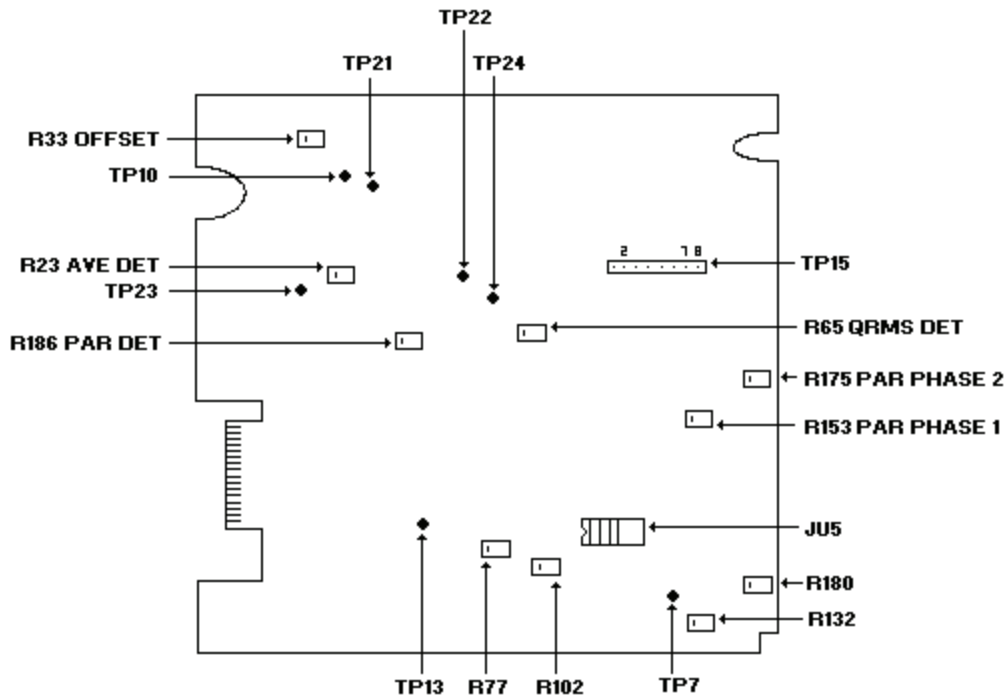

Figure 1. Receiver board A3 (A13) - adjustment locations.
- (1) Press calibrator **RESET** key and disconnect from TI.
- (2) Connect left **TRMT/RCV 310** to right **RCV/TRMT 310** using a T-type connector.
- (3) Connect multimeter **Input HI** and **LO** to T-type connector.
- (4) Press **IMPULSE NOISE DISPLAY F2 1004** key. Right display will indicate 1004 Hz.
- (5) Adjust **OUTPUT LEVEL** control until multimeter indicates about 1.0 V ac. Record exact value.
- (6) Connect multimeter **Input HI** to TP13 (fig. 1) and **LO** to ground. Adjust R77 (fig. 1) until multimeter indicates value recorded in (5) above (R).
- (7) Disconnect left **TRMT/RCV 310** from right **RCV/TRMT 310**.
- (8) Press **MEASUREMENT MEAS** key to select **NOISE** and **DISPLAY** key to select **TRMT**. Connect jumpers from TP10 to TP21 and from TP22 to TP23 (fig. 1).
- (9) Connect multimeter **Input HI** to TP24 (fig. 1). If multimeter does not indicate 0 V dc ± 0.3 mV dc, adjust R33 **OFFSET** (fig. 1) for 0 V dc. Disconnect jumpers and multimeter (R).
- (10) Set calibrator for a 0.77 V, 1.004 kHz output. Do not connect to TI at this time.
- (11) Press **DISPLAY** key to select **RCV** and **MEASUREMENT MEAS** key to select **LEVEL FREQUENCY**.
- (12) Press **NOR** and **SET UP RCV 600 Ω** pushbuttons.
- (13) Release **SET UP RCV BRG**, **RCV HOLD**, **TRMT DIAL**, and **TRMT HOLD** pushbuttons (out).
(14) Connect calibrator (preset in (10) above) **OUTPUT HI** and **LO** to TI right **RCV/TRMT 310**. Adjust R23 AVE DET (fig. 1) for > 0.0 dBm indication on TI left display, then reduce until indication just changes to -0.1 dBm (R).
(15) Set calibrator amplitude to 0.7795 V. TI left display will indicate +0.1 dBm, if not, repeat (14) above at 0.77 V.
(16) Press **MEASUREMENT MEAS** key to select **NOISE**.
(17) Press **FILTER FILTER** key to select **15 kHz FLAT**.
(18) Set calibrator amplitude to 0.727 V.
(19) Adjust R65 QRMS DET (fig. 1) until TI left display indicates 90 dBm then reduce level until indication just changes to a stable 89 dBm (R).
(20) Set calibrator amplitude to 0.826 V. TI left display will indicate 91 dBm, if not repeat (18) and (19) above.
- (2) Connect left **TRMT/RCV 310** to right **RCV/TRMT 310**.
- (3) Press **DISPLAY** key to select **TRMT** and **MEASUREMENT MEAS** key to select **LEVEL FREQUENCY**.
- (4) Press **←**, **STEP UP**, **STEP DOWN**, and **→** keys until TI right display indicates 995 Hz. Adjust **OUTPUT LEVEL** control until left display indicates 0.0 dBm.
- (5) Press **DISPLAY** key to select **RCV**.
- (6) Move shorting bars on JU5 (fig. 1) to right (shorting pins 5 to 12, 6 to 11, 7 to 10, and 8 to 9).
- (7) Connect oscilloscope **CHAN 1** to pin 1 of JU5 (fig. 1).
- (8) Adjust R102 (fig. 1) for minimum ac signal on oscilloscope (R).
- (9) Press ←, **STEP UP**, **STEP DOWN**, and → keys until TI right display indicates 1010 Hz.
- (10) Connect oscilloscope **CHAN 1** to pin 4 of JU5 (fig. 1).
- (11) Adjust R132 (fig. 1) for minimum ac signal on oscilloscope (R).